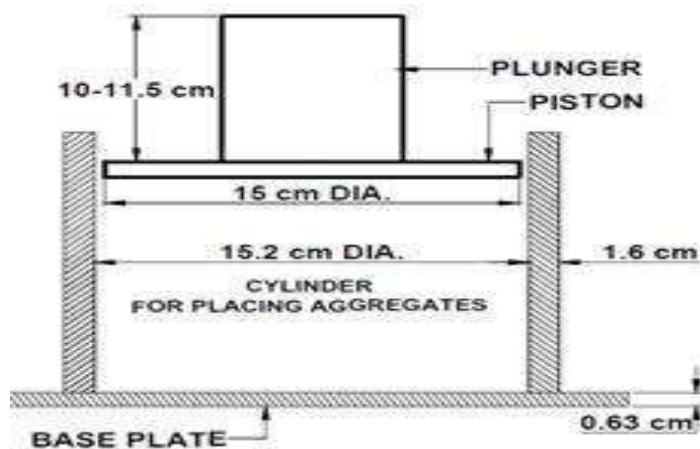

Fig 1 AGGREGATE CRUSHING TEST APPARATUS
- 1) A 15cm diameter open ended steel cylinder with plunger and base plate, of the general form and dimensions as shown in Fig 1.